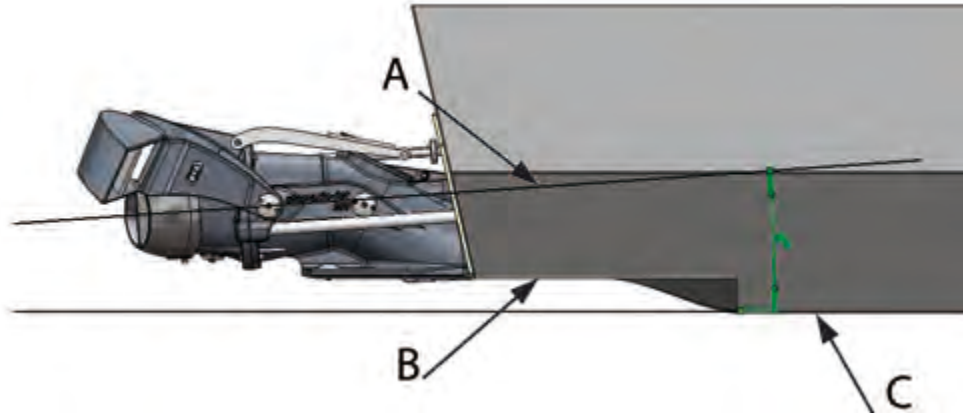

Figure 9. Installation insert alignment
4. Fit the installation insert in place and support it from the outside (figure 9).